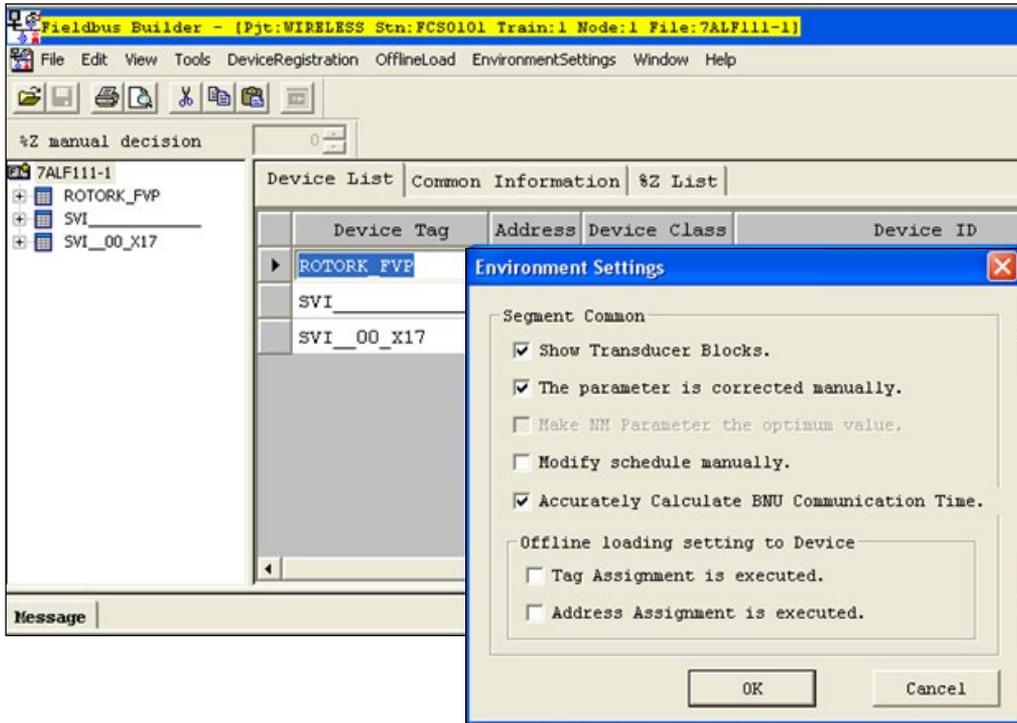

Figure 73 - Environment Settings
- Open the *Environment* settings and verify that *Make NM Parameter the optimum value* checkbox is not selected (Figure 73).